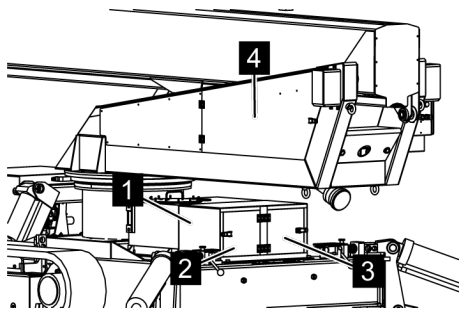

Fig. 116: Shuttle valve cover
2. → Open the doors (Fig. 116/2 and 3) or completely remove the cover (Fig. 116/1).
3. → Open the door (Fig. 116/4).